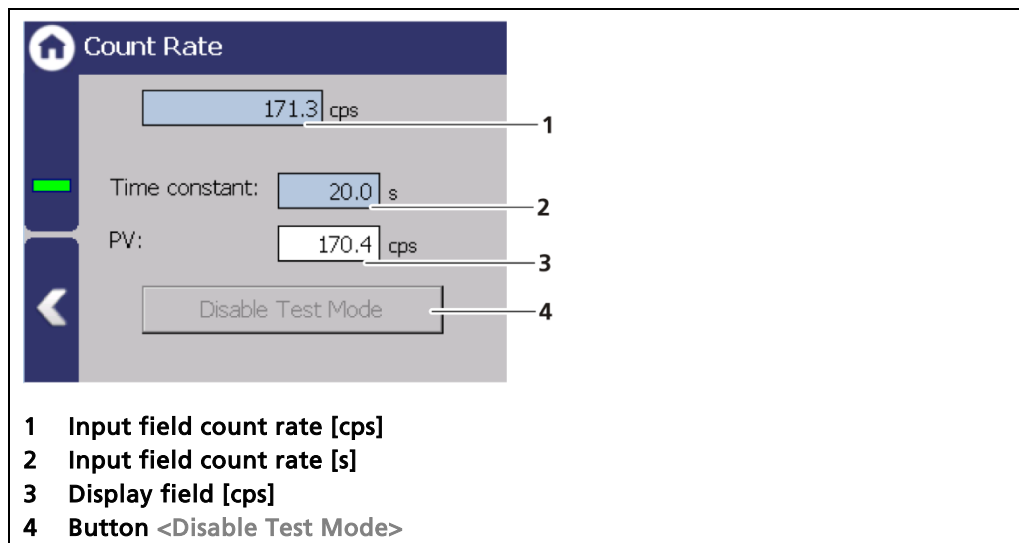

Fig. 129 Simulation count rate
1. Click on the input field (Fig. 129, item 2) and enter the time constant for the simulation.
2. Click on the input field (Fig. 129, item 1) and enter count rate for the simulation.
- ▶ The test is performed, and a system event is displayed. The entered count rate is displayed in the display box (Fig. 129, item 3).
3. Click on the <Disable Test Mode> button (Fig. 129, item 4) to stop the simulation.